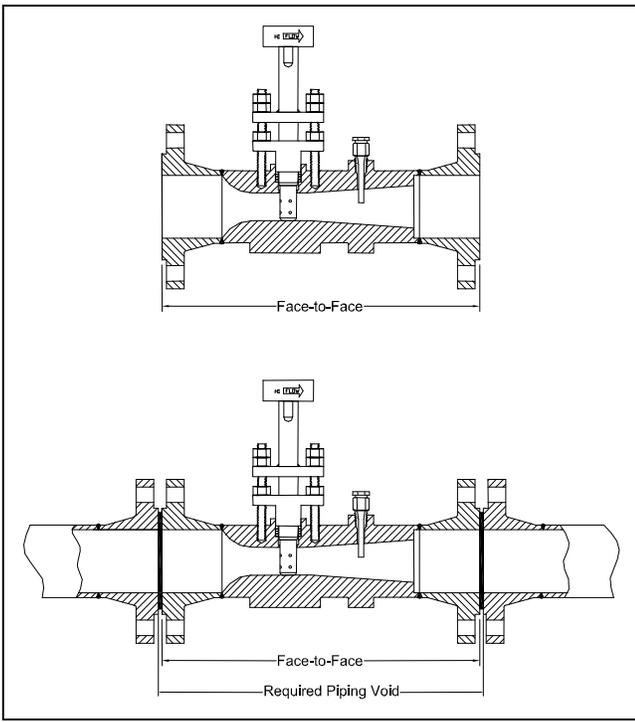

Figure 2. Face-to Face Dimension
NOTE: The face-to-face dimensions do not include gaskets (see Figure 2). Veris recommends adding 0.375" to the above dimensions to obtain the required distance between the piping flanges.
- Position Accelabar in piping void that has been prepared per Figure 2. Be certain that the flow arrow on the Verabar Sensor is oriented in the same direction as the flow in the pipe. Failure to orient the Accelabar correctly could result in poor flow measurement.